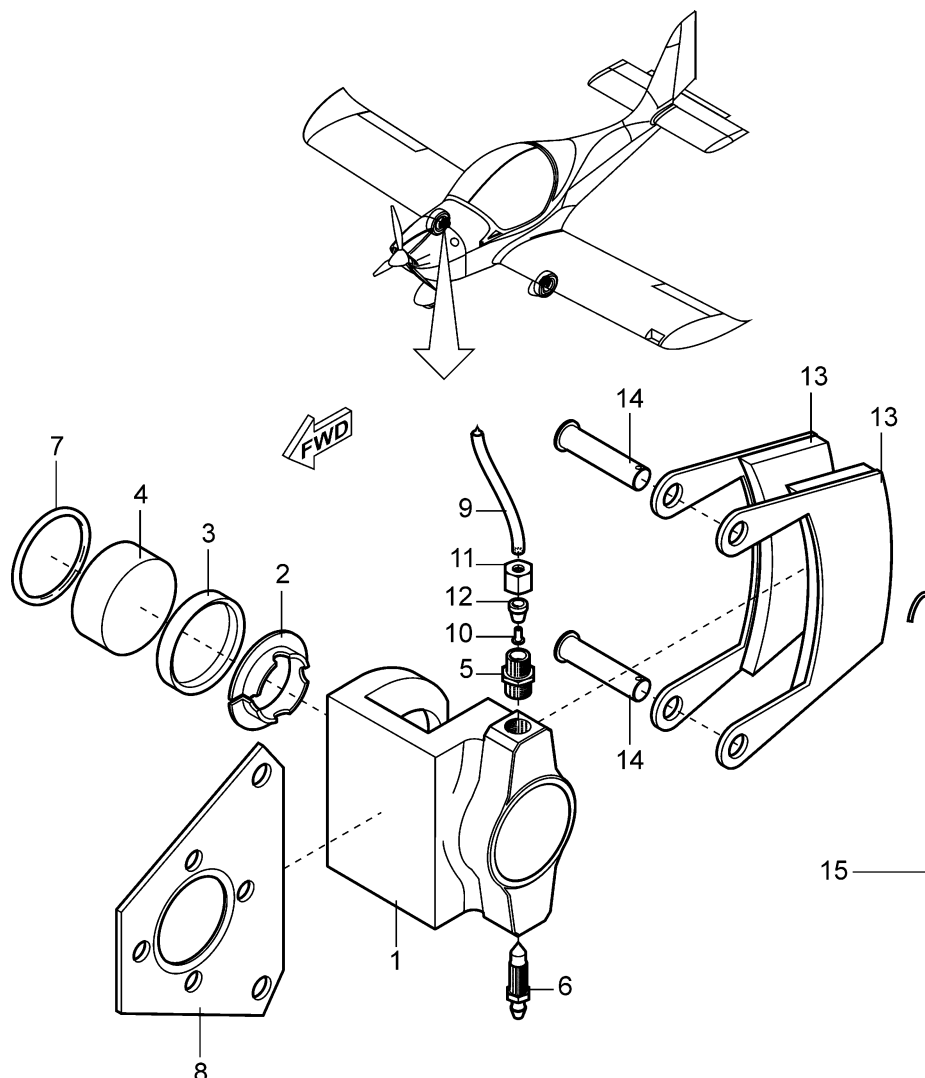

Fig. 1 – S5 10-05 01/02 brake
- 1.3.1.5 Disconnect the hose (9, Fig. 1) from the straight hose connection (5) by loosening the nut (11). Blind the hose.
Legend to Fig. 1
1.3.2.6 Place the brake disc and the brake shoes (13, Fig. 1) into the brake caliper body (1).